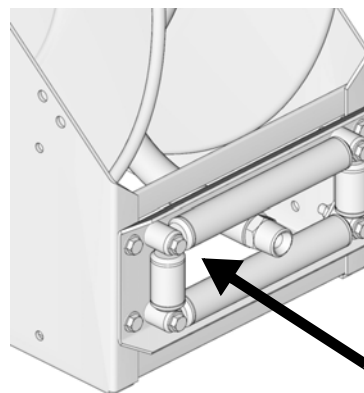

**FIG. 8**
- b. Use 2, large c-clamps (B) to secure the hose reel to a flat surface (FIG. 8).